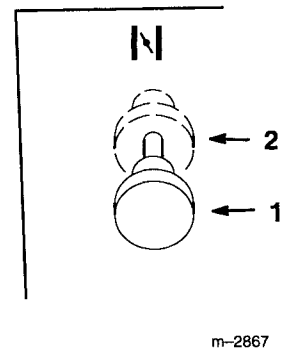

Figure 4
5. Move throttle lever to "FAST" (Fig. 4).
7. After the engine starts, move the choke lever to "OFF" (Fig. 4). If the engine stalls or hesitates, move the choke lever back to "ON" for a few seconds. Then move the throttle lever to desired setting. Repeat this as required.